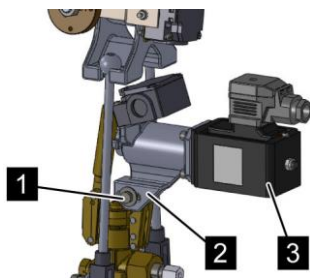

Fig. 145: Removing the release device
6. ➔ Unscrew the hex bolt (Fig. 145/1) on the holder (Fig. 145/2) of the EM release device. Remove hex bolt, washer and hex nut and keep them in a safe place.
7. ➔ Take the release device (Fig. 145/3) off of the valve.